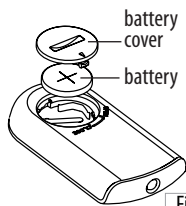

Fig. 2
- Replace the battery paying attention to respect the right polarity as shown in figure 2.